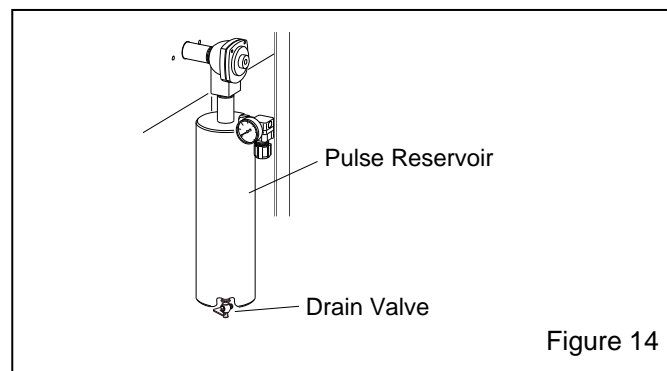

Figure 14
**3.4.4** Drain the pulse reservoir. The drain valve is mounted at the bottom of the reservoir, as shown in Figure 14. Drain whenever the air supply to the pulse regulator is turned off.